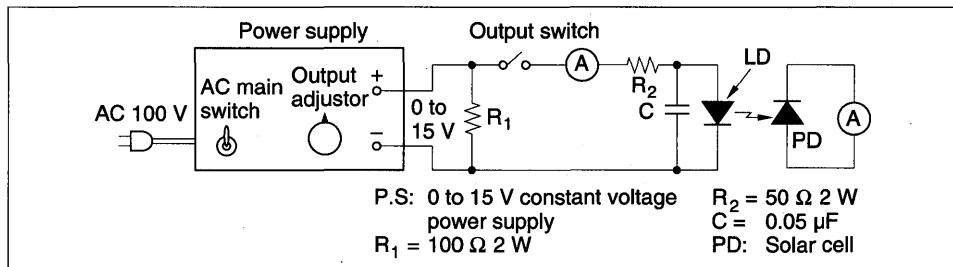

Figure 5-3: Simple Drive Circuit
(2) Operating laser diodes
- (iii) Before connecting a laser diode to the power supply in the ON-state as shown in figure 5-3, set the output level to the minimum. Also, before disconnecting a laser diode from the power sup-